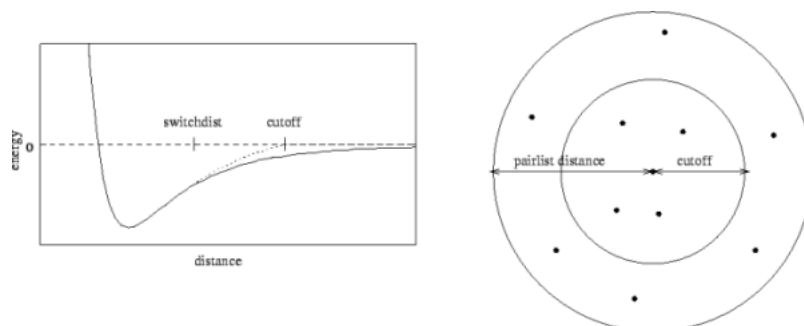

Figure 5: Cutoff and switching distances indicated on the left. Pair list distance indicated on the right.
- **switchdist**: indicates the distance in Å at which the functional form of electrostatic and van der Waals interactions is modified to allow their values to approach zero at the **cutoff** distance. A visual explanation of this is useful and may be found in Figure 5.
- **pairlistdist**: is designed to make computation faster. It specifies a distance in Å. NAMD will only search within this distance for atoms which may interact by electrostatic or van der Waals interactions. This way, NAMD does not have to search the entire system. The distance must be greater than the **cutoff** distance, and the list must be updated during the simulation. See Figure 5.